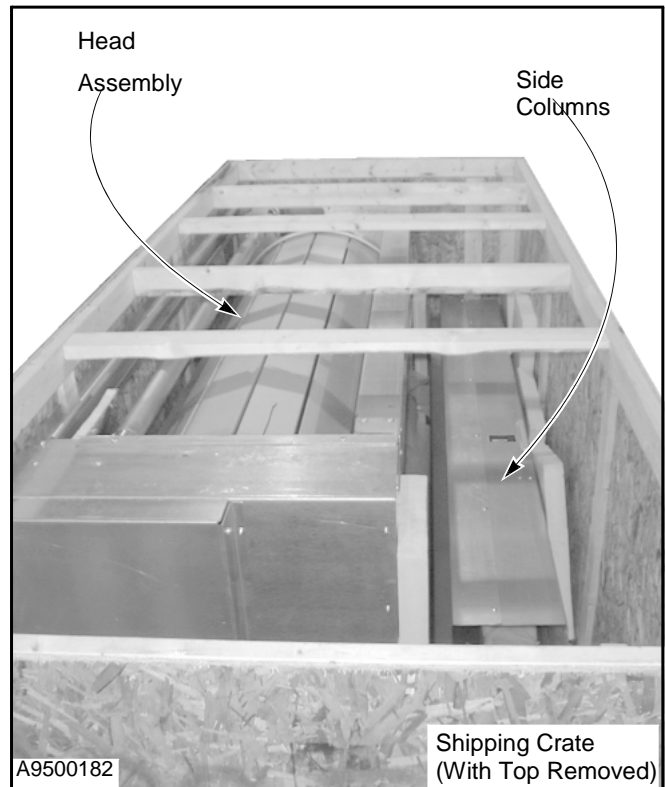

Figure 7
1. Remove the two side column assemblies, spring pack assemblies, and the small parts carton from the shipping crate. (See Figure 7.)